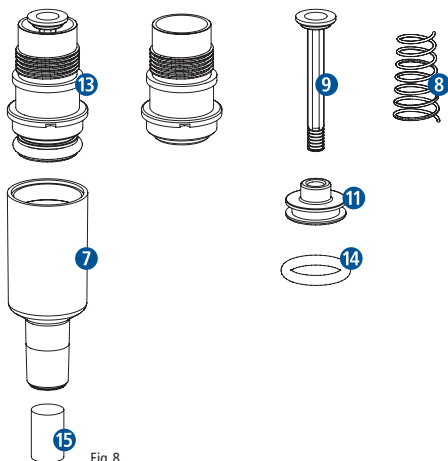

Fig. 8
- Carefully unscrew the pipette tip cone **7** and the piston unit **13** in a clockwise direction. Pull the support ring **11** off the piston **9**. Remove the O-ring **14**. Now you can clean the spring **8** and the piston (Fig. 8).